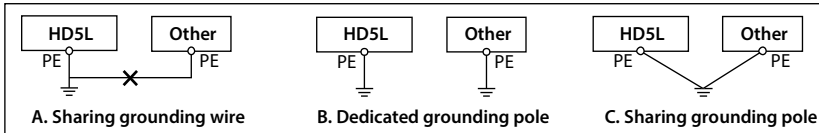

Figure 4-28 Grounding method
Do not share the grounding wire with other devices (A). HD5L can share grounding pole with other devices (C). It achieves the best effect if HD5L and other devices use dedicated grounding poles (B), as shown in Figure 4-28.